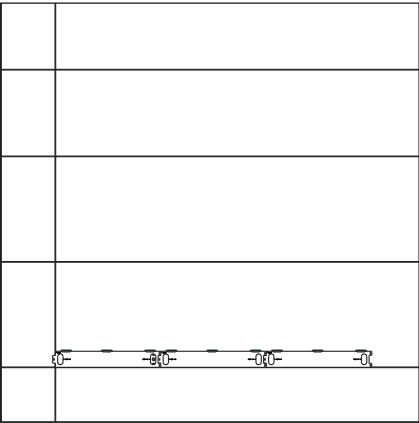

Figure 3: Use Jigs
- e. Remove the left jig and continue down the tube, using as many jigs as supplied/necessary. Refer to **Figure 3**.